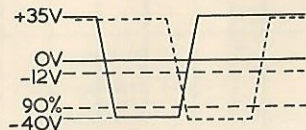
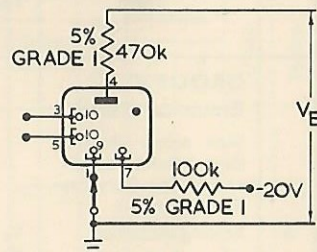
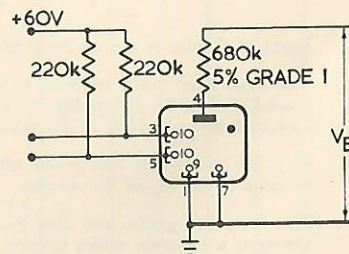

Fig. 1
Fig. 2
Fig. 4
- The tube shall scale without error the first applications of test signals (illustrated in Fig. 1). Test signals are to be applied for at least 1/10th second. The test circuit of Fig. 2 is applicable.
- The tubes selected for this test are to be run in the circuit shown in Fig. 4. One application of the pulses shown in Fig. 1 is to be made every 85 ± 5 hours. The tube is to receive 20 such pulses and then be removed. A tube which fails to step on the application of the test pulses shall be rejected. The normal guide bias is to be +60 V which will be reduced to +35 V immediately prior to the application of pulses.